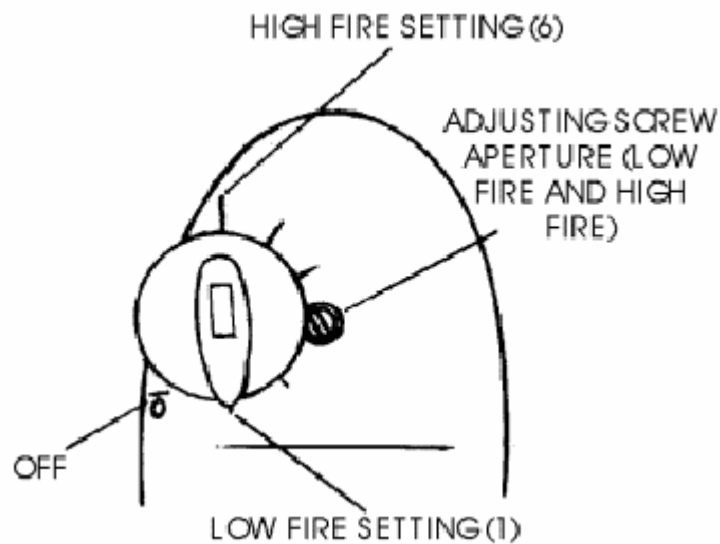

Fig. 12 DESN 511910
4. If the rate is incorrect then turn the low fire adjusting screw as shown on the cover plate to increase or decrease the flow. See Fig. 12.
**NOTE:** When the control valve knob C is set to No. 1 (Low Fire), the low fire adjusting screw is visible through the aperture (see Fig. 12). Likewise, when the control valve knob C is set to No. 6 (High Fire), the high fire adjusting screw is visible through the same aperture.